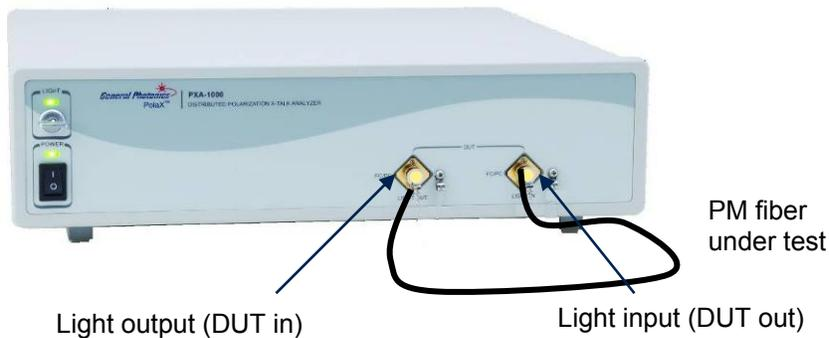

Figure 16 Setup for birefringence measurement of PM fiber
The recommended setup for measuring the birefringence of PM fiber is shown in Figure 16. The slow axis of the PM fiber under test should be aligned to the connector key.
1. Precisely measure the length of the PM fiber under test, then connect it to the PXA-1000 as shown in Figure 16.